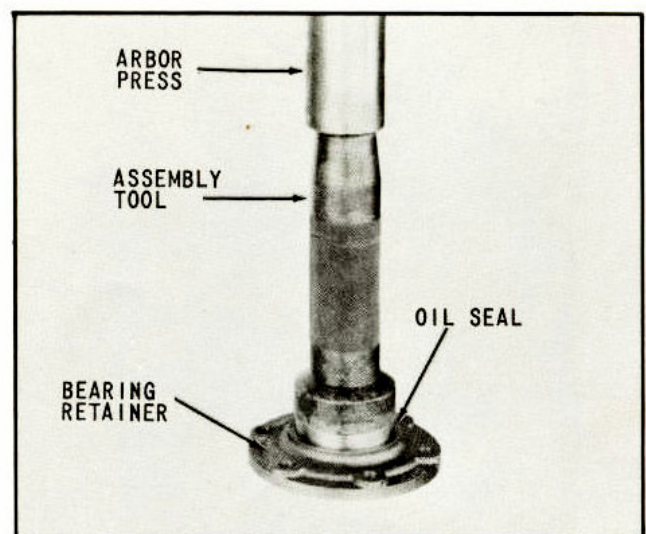

Fig. 17 Pressing Oil Seal in Retainer
3. Using arbor press and suitable tool, as shown in (Fig. 17), press the oil seal into the bearing retainer until the rear face of the oil seal is flush with the rear face of the bearing retainer.